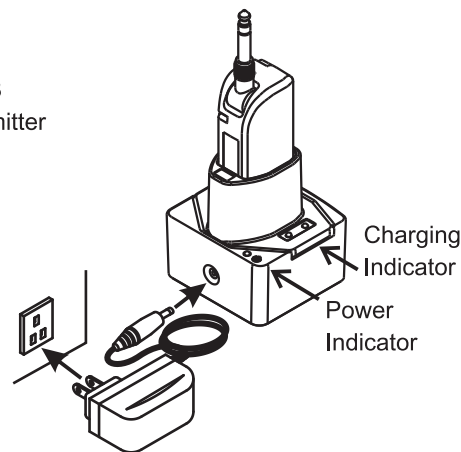

Fig. 39
- (C) Charging Status: The indicator light displays the charging status of the battery, Fig. 39.
- (1) Still Red: The battery is charging.
- (2) Still Green: The battery is fully charged.
- (3) Light is off: No transmitter is inserted.